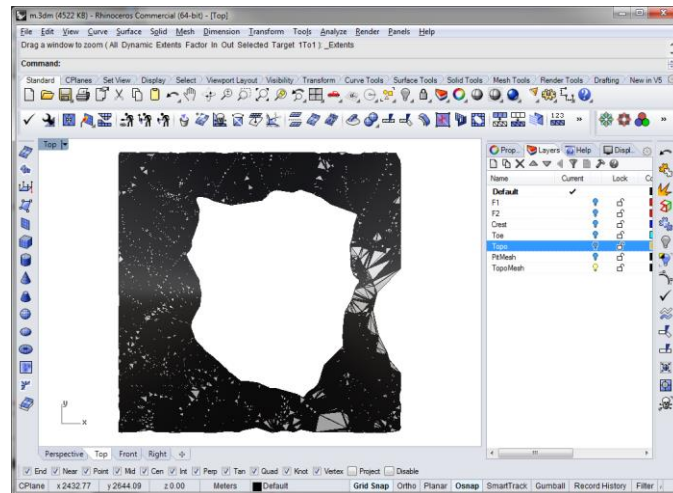

Figure 149: Trimming the TopoMesh.
3. **Mesh|Mesh Edit Tools|Mesh Trim** and **click inside** the curve to trim off the portion of the mesh that is inside the curve. Don't forget **<ENTER>** to complete the Trim operation. **Edit|Select Objects|Curves** followed by **<DELETE>** to get rid of the boundary curve (Figure 149).